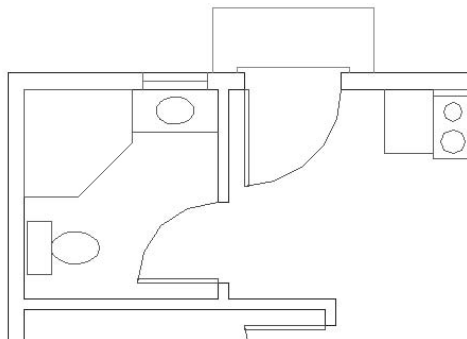

FIGURE 7.26: The 2' window after insertion
6. At the X scale factor prompt, type 2↵. Then, at the Y scale factor prompt, type 1↵. Press ↵ again to accept the default rotation angle of 0°. The 2' window is inserted into the wall behind the sink (see Figure 7.26).
6. At the X scale factor prompt, type 2 \downarrow . Then, at the Y scale factor prompt, type 1 \downarrow . Press \downarrow again to accept the default rotation angle of 0°. The 2' window is inserted into the wall behind the sink (see Figure 7.26, shown earlier).